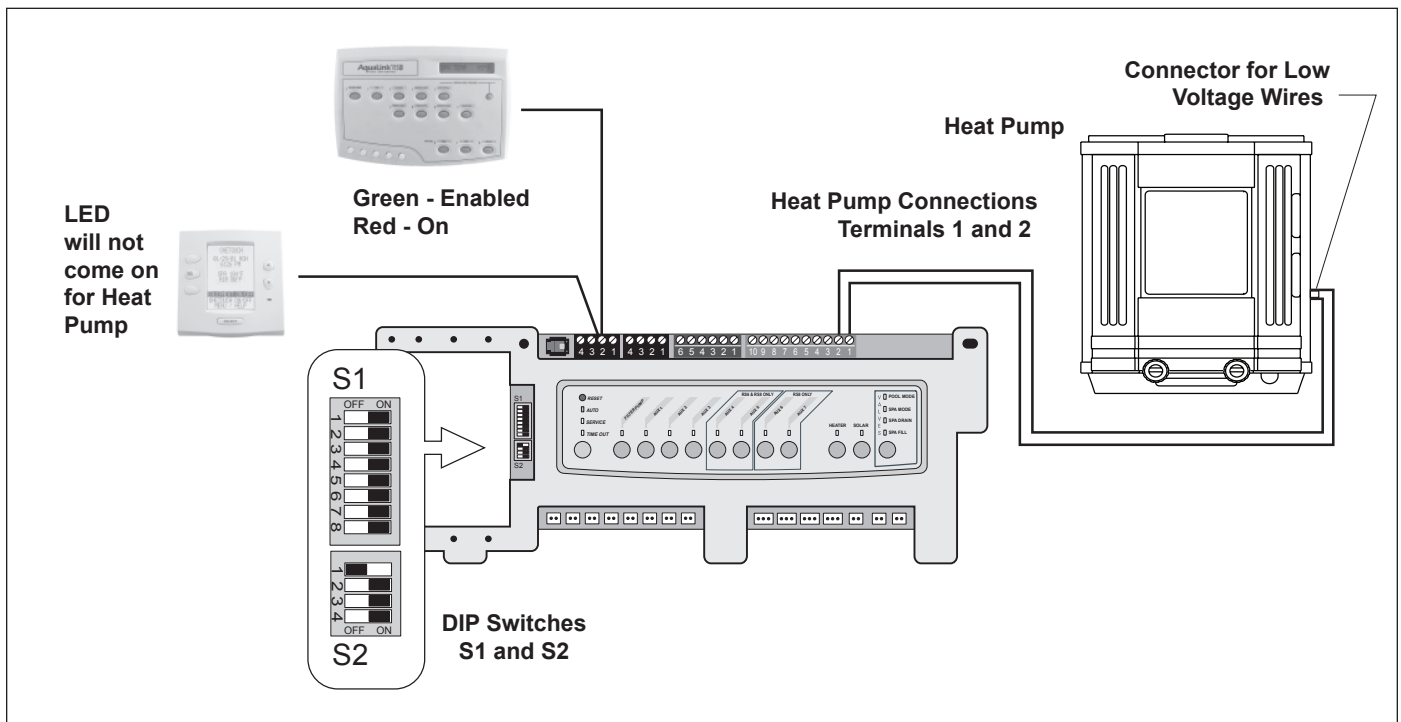

Figure 13. AquaLink RS to AE-Ti Heat Pump
3. Put DIP S2-1 (pin #1 of the 4 position DIP switch) into the ON position (see Figure 13).